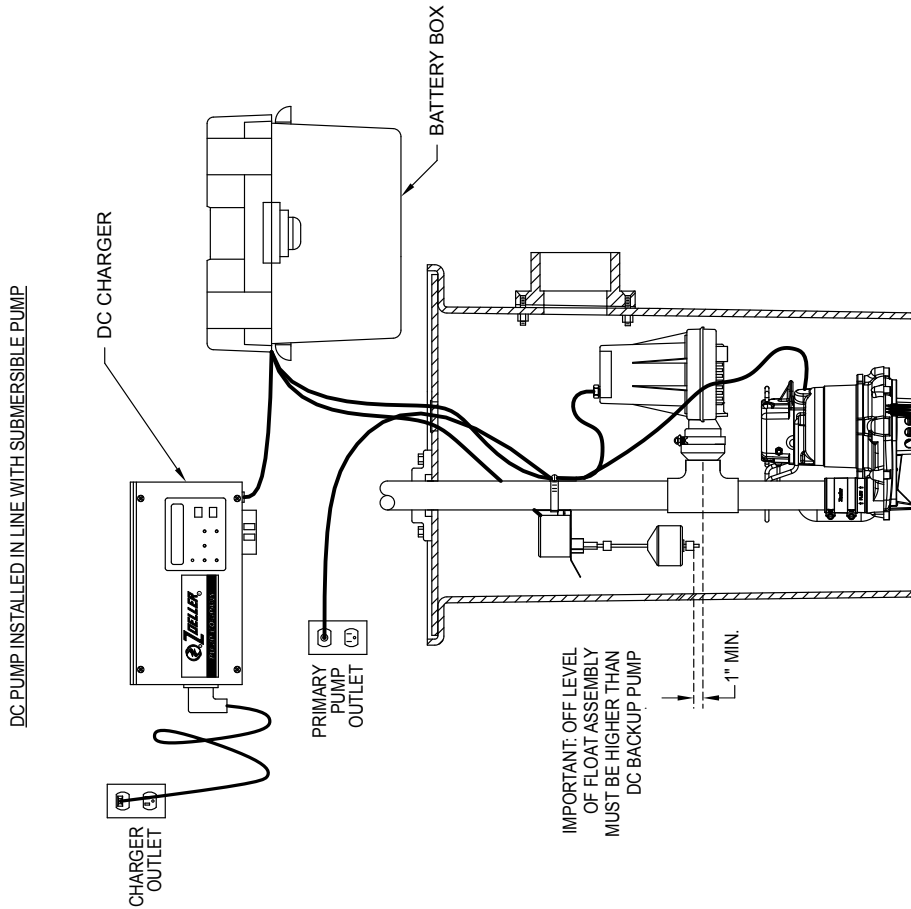
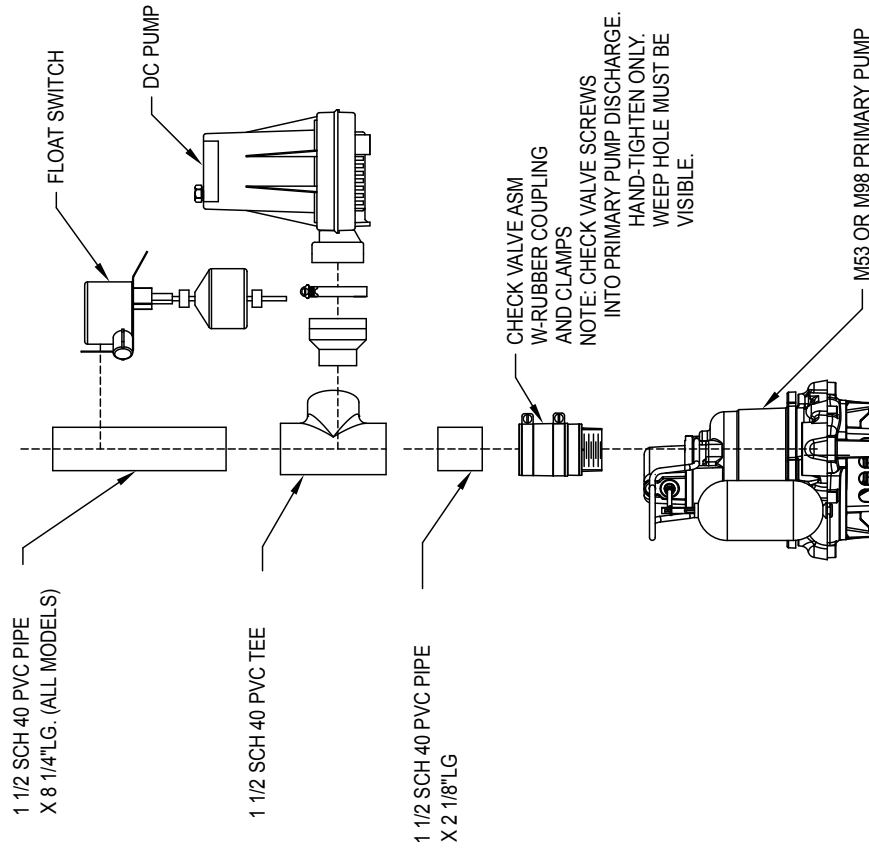

FIGURE 1
FIGURE 2
1. The preferred method of installation for backup pumps is shown in figure 1. The installation kit includes one check valve for installing with the backup pump discharging into the primary pump outlet pipe. An additional check valve is incorporated in the discharge of the backup pump.
2. Select location for battery and control charger. Control charger must be within 6' of a 115V wall outlet and within 6' of pump and basin. Connect to a separate circuit, different than the primary pump. If the DC pump was shipped loose, insert the discharge into the tee and tighten the hose clamp (see figure 2).
3. Make certain the float switch clamp is tight on the pipe to avoid slippage. Ensure that the "off" level of the float is 1" min. above the discharge tee of the DC backup pump (see figure 1). Position pumps in the sump and move float up and down, making sure of free movement without interference from any obstructions inside the sump or lid. Very shallow sumps may require some adjustment to avoid overflowing or backing up of water into the sump inlet. The float switch can be moved on the discharge pipe or the rubber stops can be adjusted as necessary. Cut extra float rod length below lower float stop to prevent debris from interfering with float operation (see figure 2).